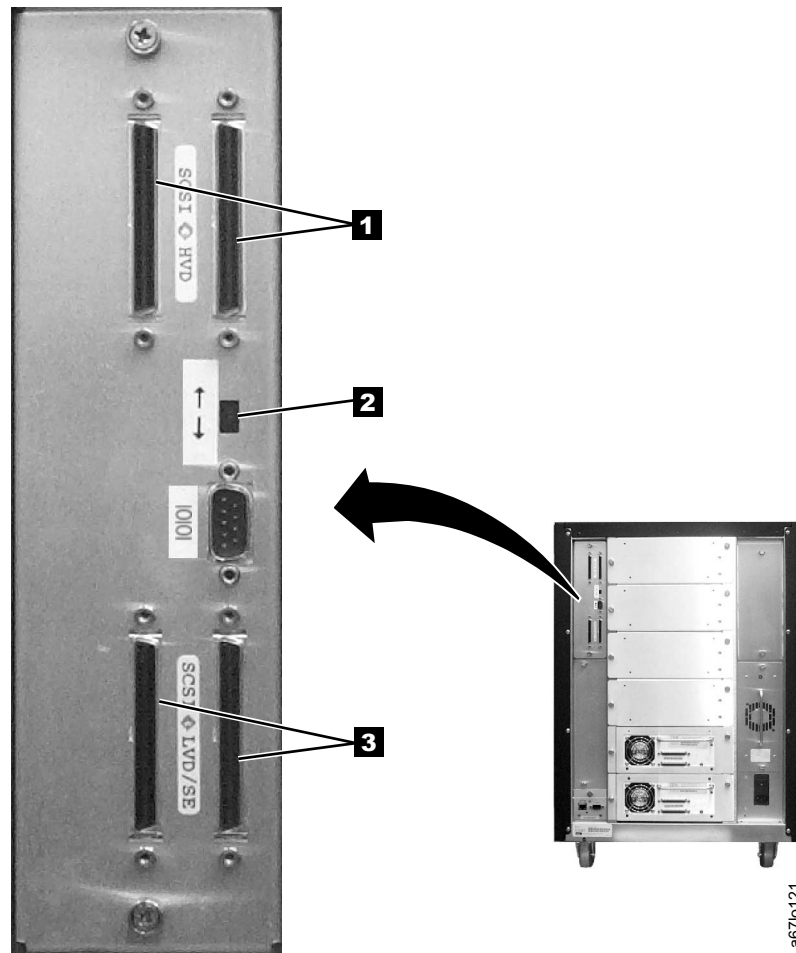

Figure 33. SCSI host interface board
**Note:** Although the LVD/SE hardware in the library is capable of operating in single-ended (SE) mode, SE operation is not recommended or supported.
1. Determine whether you intend to attach to the HVD connector **1** or the LVD/SE connector **3** on the host interface board (SCSI) (see Figure 33). You can attach to and use only one of the SCSI types on the host interface board. All devices on the bus with the host interface board (SCSI) must be the same SCSI type (HVD and LVD/SE cannot be mixed on the same bus).